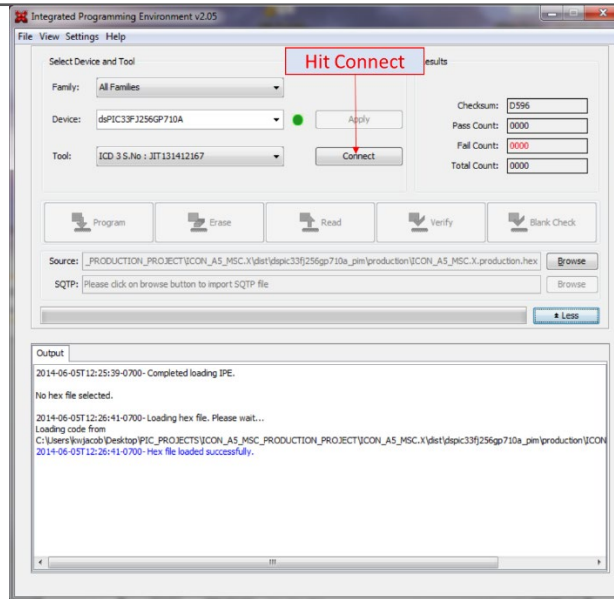

Figure 4: Connecting to MSC
10. Hit Connect as shown in Figure 4 to connect software to the MSC.